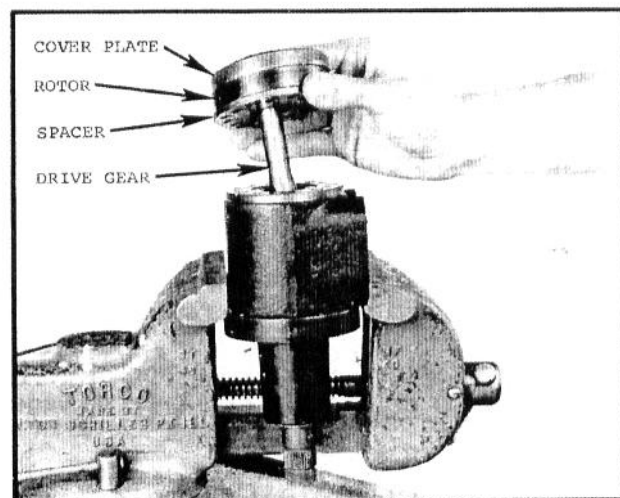

FIG. 12 — REMOVING THE METERING END
1. If the hand pump is going to be completely disassembled and reassembled, it will be necessary to clean all paint and surface contamination from the pump at the points of separation. This is extremely important at the metering end (Fig. 12) of the pump. Do not allow paint flakes or any other contamination to enter the precision-fitted components as they are being reassembled.
To clean the hand pump adequately, insure that port plugs are installed, then wire brush around the metering area (Fig. 12). Rinse in solvent and blow away all surface contamination before disassembly is begun.